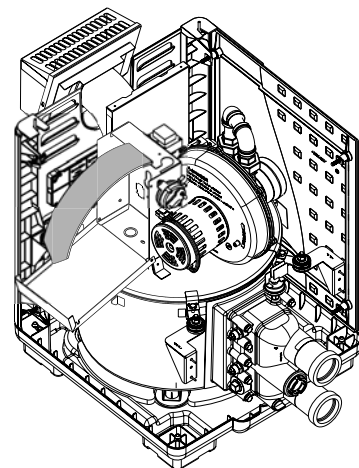

Figure 15.
3. Open control box cover (see Figure 15).